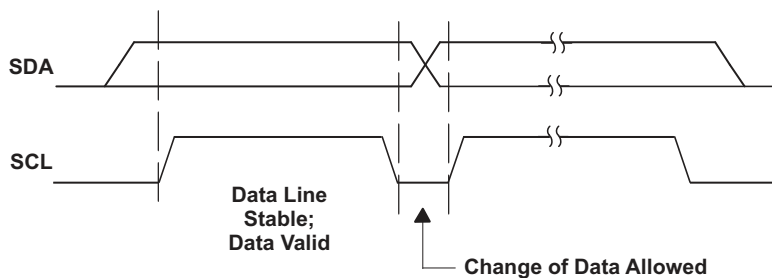
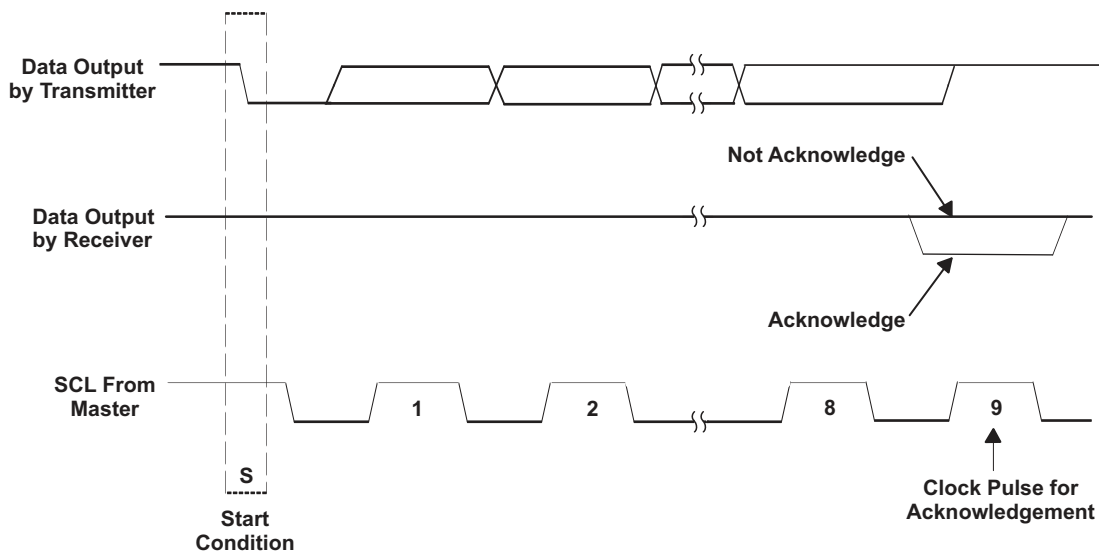

Figure 20. I2C Bit Transfer
Figure 21. I2C Acknowledge
- The master then generates the SCL pulses and transmits the 7-bit address and the read/write direction bit R/W on the SDA line. During all transmissions, the master ensures that data is valid. A valid data condition requires the SDA line to be stable during the entire high period of the clock pulse (see Figure 20). All devices recognize the address sent by the master and compare it to their internal fixed addresses. Only the slave device with a matching address generates an acknowledge (see Figure 21) by pulling the SDA line low during the entire high period of the ninth SCL cycle. On detecting this acknowledge, the master knows that a communication link with a slave has been established.